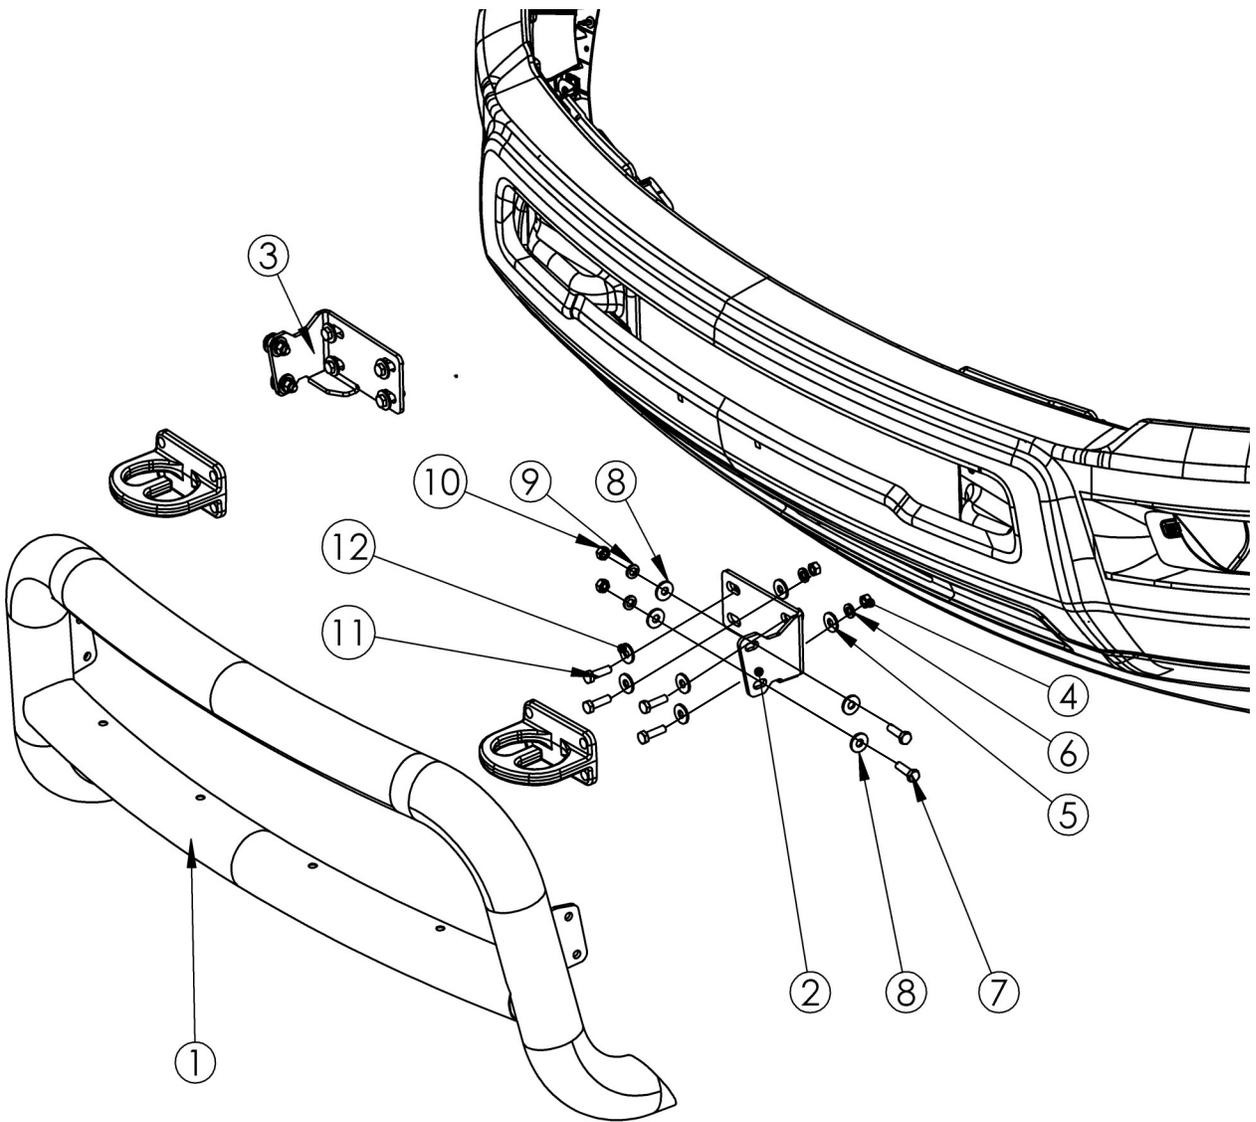

Fig. 4
5. With assistance, hold the bull bar up in position on the outside of the mounting brackets. Loosely install the bull bar to the brackets using (4) M10-1.50 hex head cap screws, (8) M10 flat washers, (4) M10 split lock washers, and (4) M10 hex nuts. Refer to **Figure 4** for a picture showing mounting hardware used.